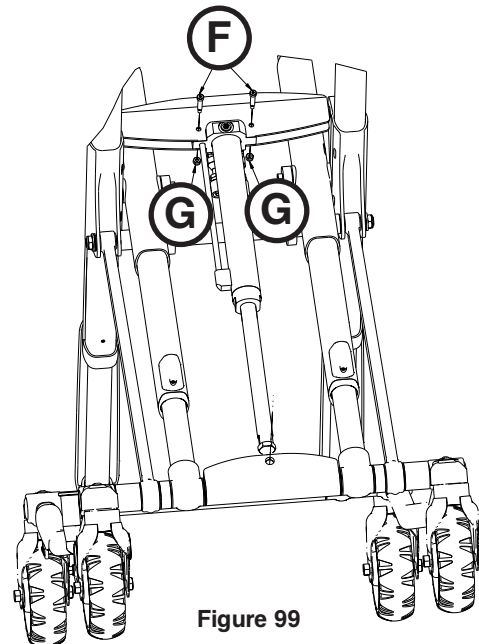

Figure 99
7. Using a 1/8" hex wrench and 3/8" combination wrench, remove the two socket head set screws (F) and Fiberlock hex nuts (G) that secure the hydraulic cylinder to the base (Figure 99).